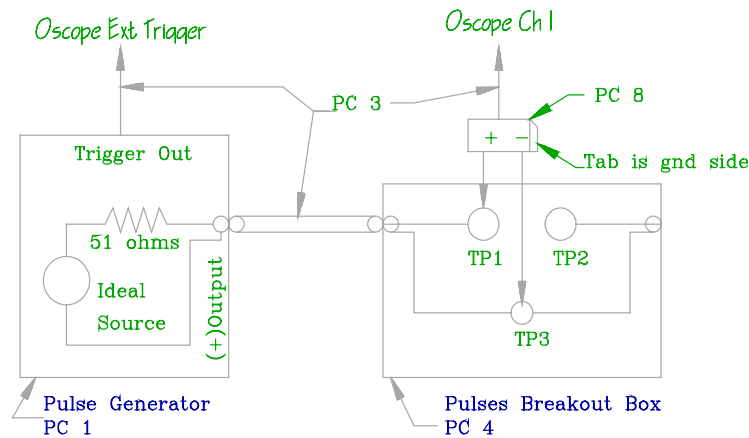

Figure 4: Setup to measure input pulse.
- a. Connect system as shown in Figure 4, for initial setting and measurement of the pulse waveform. Energize pulse generator and Oscope. Set pulse generator settings and adjust using the Oscope to measure. Set instrument controls to first view the pulse train on the Oscope and then an individual pulse.